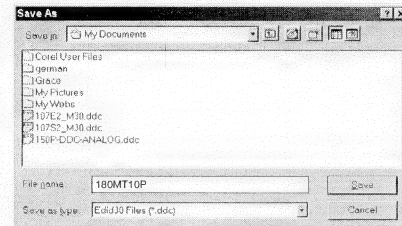

Fig. 26
1. Click (Save) icon (or click "file"-> "save as") from the tool bar and give a file name as shown in Fig. 26. The file type is EDID30 file (*.ddc) which can be open in WordPad. By using WordPad, the texts of DDC data & table (128 bytes, hex code) can be modified. If DDC TEXTS & HEX Table are completely correct, it can be saved as .ddc file to re-load it into DDC IC & EEPROM for DDC Data application.